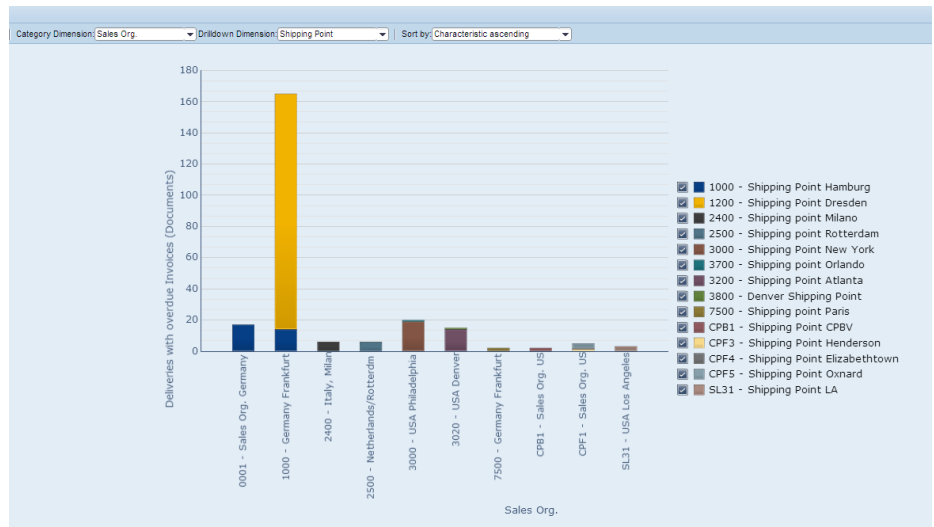

Figure 5: Benchmarking: Deliveries with overdue invoices by Sales Org (SAP AG 2014)
- **Benchmarking:** For the selected key figure SAP Solution Manager will provide details of the number of records created over a specified time frame. This can detail the number of records in terms of 'Throughput', the number of records processed over a specified time frame; and 'Backlog', the number of records that are left in an incomplete state. For example, in our Sales Order scenario we might see a large number of open Deliveries for a specific Sales Organization (see Figure 5- Benchmarking). Comparisons can be made